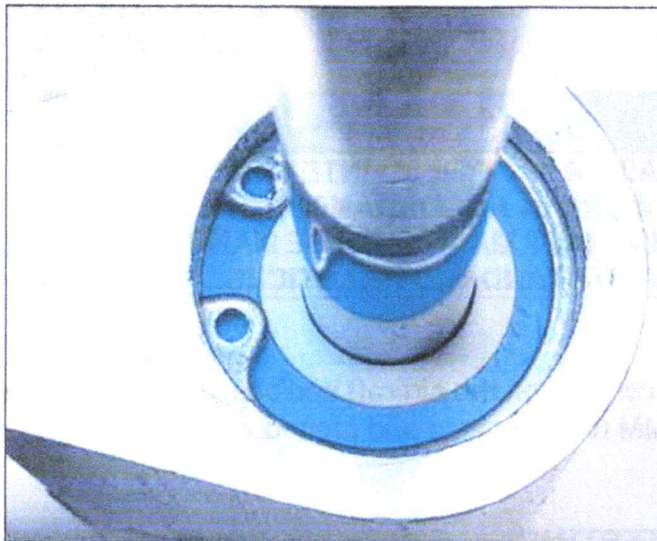

FIGURE 8 - FINAL INSTALLED GLAND
- f) Install new INTERNAL RETAINING RING provided in kit as shown in Figure 8.